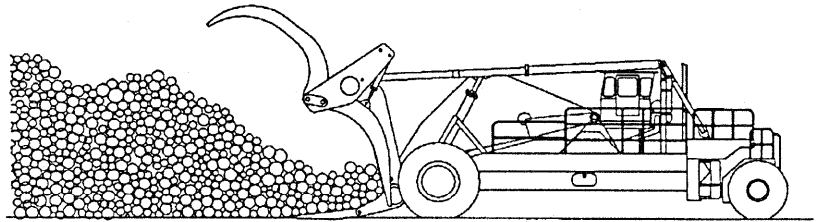

Fig 4-15
2. Move into the deck and simultaneously tilt the carriage fully forward. The logs should roll up into the back of the carriage. Move into the deck as far as possible. See Fig. 4-15.